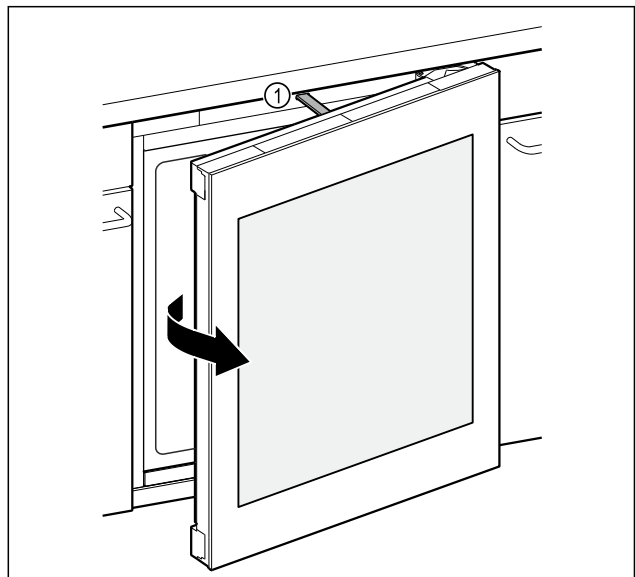

Fig. 92
- ▶ Push rod Fig. 92 (1) opens door approximately 7 cm.